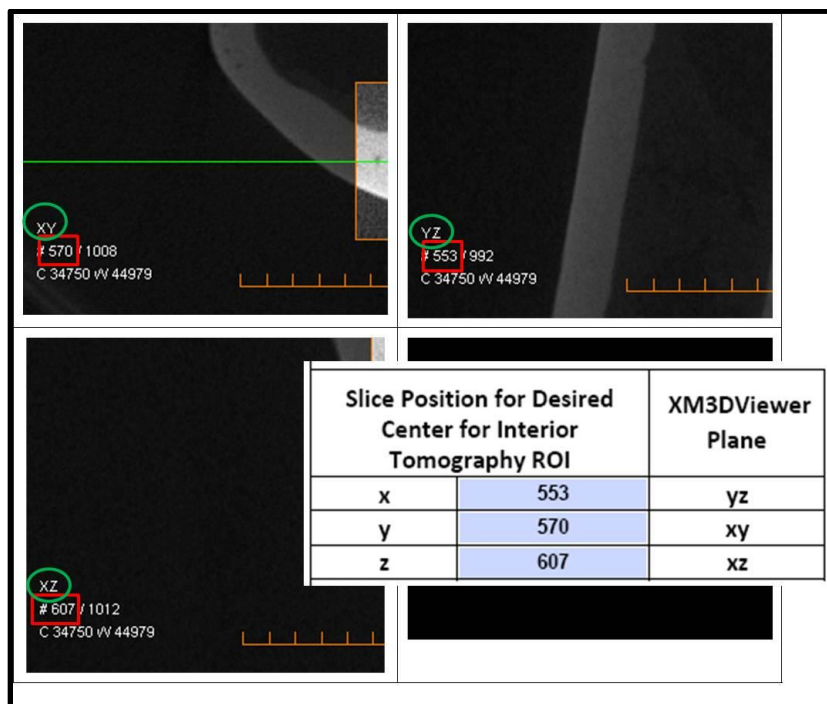

Figure 8: The current slice number for each direction can be found in the lower left hand corner of their respective viewing panes.
- c. The numbers for the desired center of ROI are taken from the slice numbers representing the colored lines placed at the center of the FOV in step 4 (Figure 8).